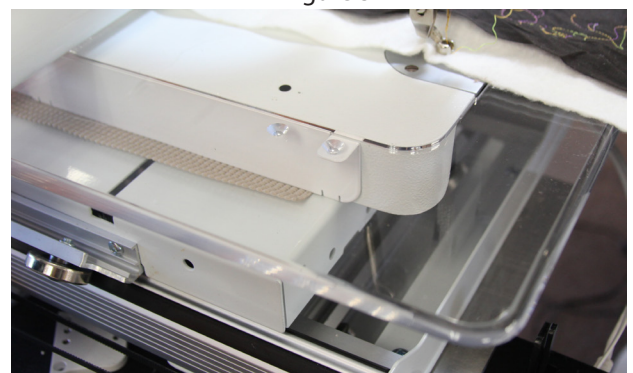

Figure 4
Step 4. Once you have the brackets where you feel they should be, lay the table on top of the brackets. If the table is in the right place then proceed to step 5. If not readjust the brackets to where they need to be. See figure 4